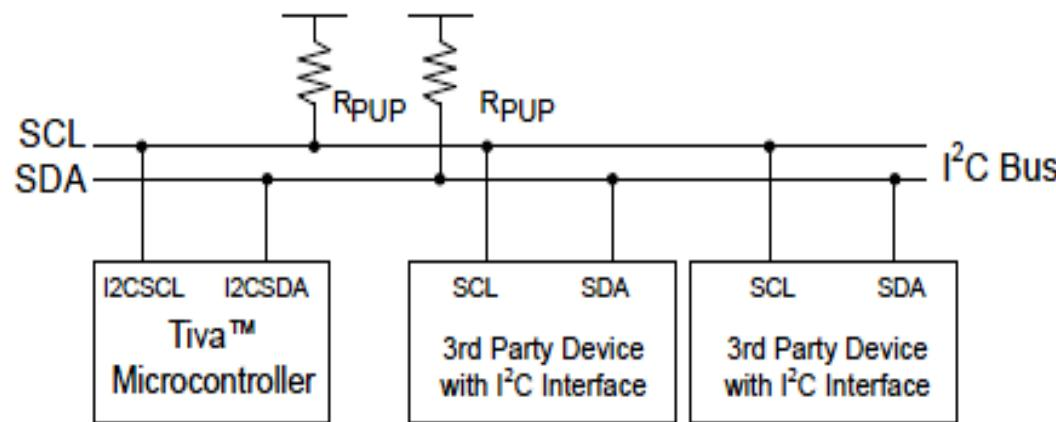

Figure 8.42 The I2C bus configuration and status.
- Both **SDA** and **SCL** signals must be connected to a positive power supply voltage using a pull-up resistor. When both wires are in this status, it is called that the bus is **idle**. A typical I2C bus configuration is shown in Figure 8.42.